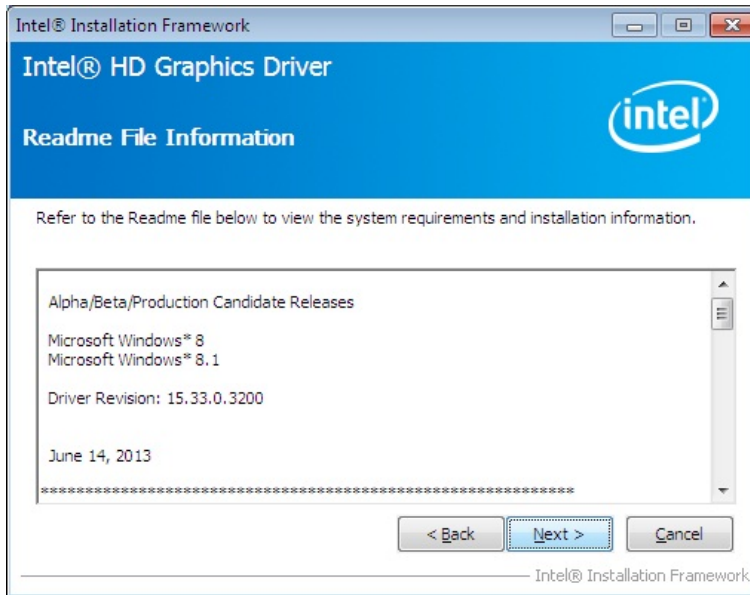

Figure 6-8: Graphics Driver Read Me File
Step 8: The Read Me file in **Figure 6-8** appears. Click **Next** to continue.